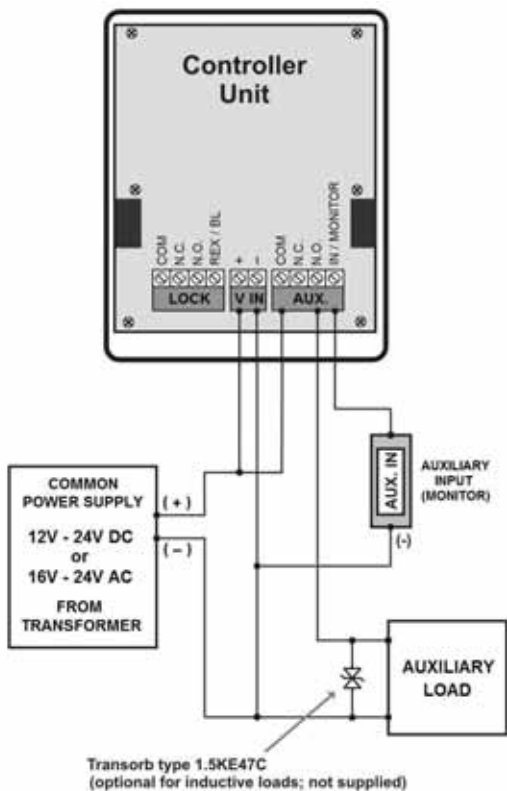

Figure 8: Terminal Block Wiring of the Auxiliary Input & Output
- Wiring for Auxiliary Input & Output (Figure 8)